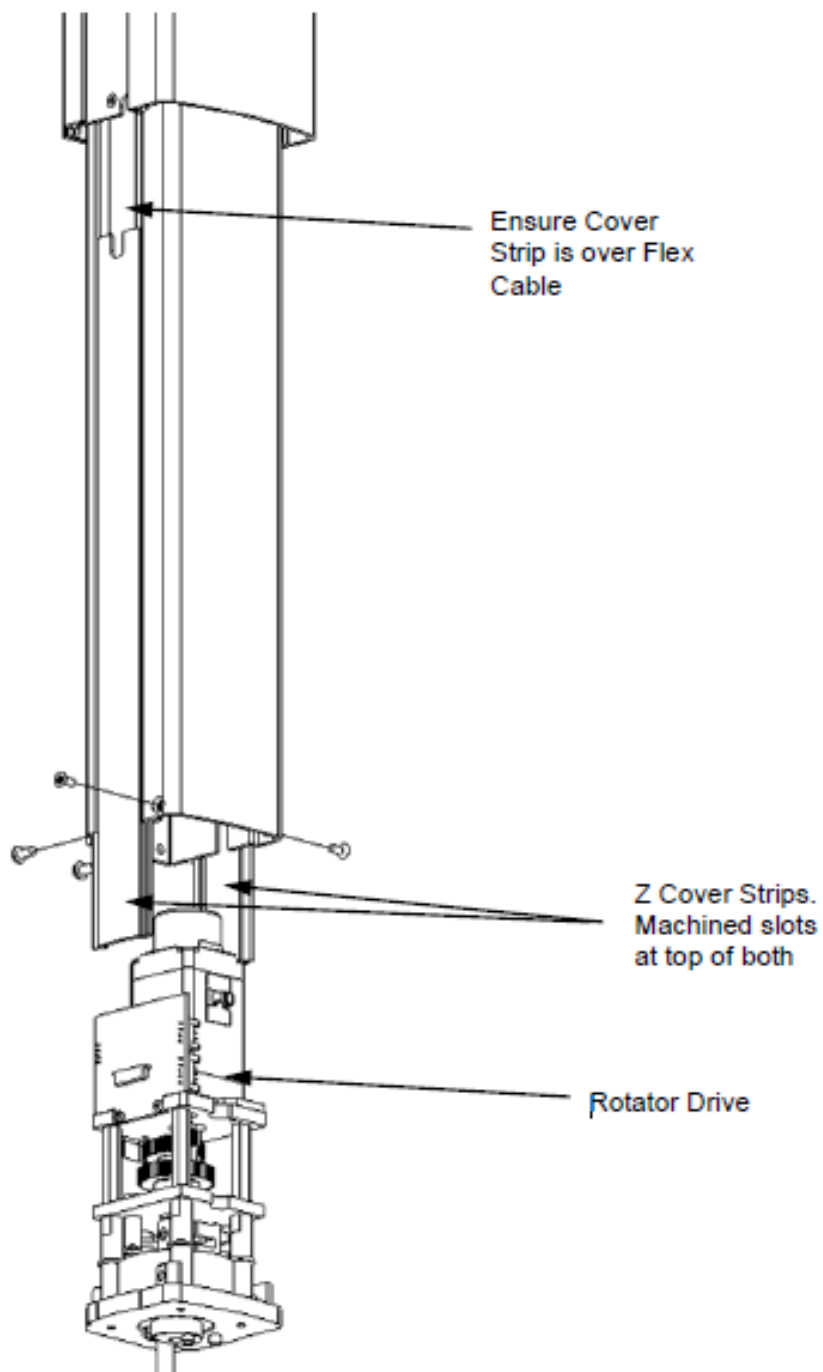

Figure R-3: Removing the Rotator Drive
4. Unscrew the two M3x5 BHCs that attach the rotator drive to the bottom of the Z drive assembly (Figure R-3).